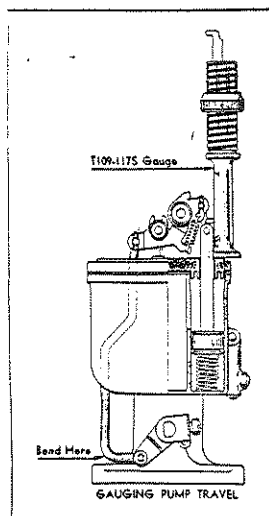

Fig. 6
46. **Pump Adjustment:** Back out throttle lever set screw. With throttle valve seated, pump should travel 17/64" from closed to wide open throttle. Adjustment can be made by bending throttle connector rod at lower angle with tool T109-41. Pump travel can be measured by using universal pump stroke gauge T109-1175 by placing base of gauge on raised portion of bowl cover so that projecting ear of pump gauge rests on top of pump shaft (See Fig. 6). Hold gauge vertical. The difference between the number shown by index mark on gauge, at wide open and closed throttle positions, should be 17.